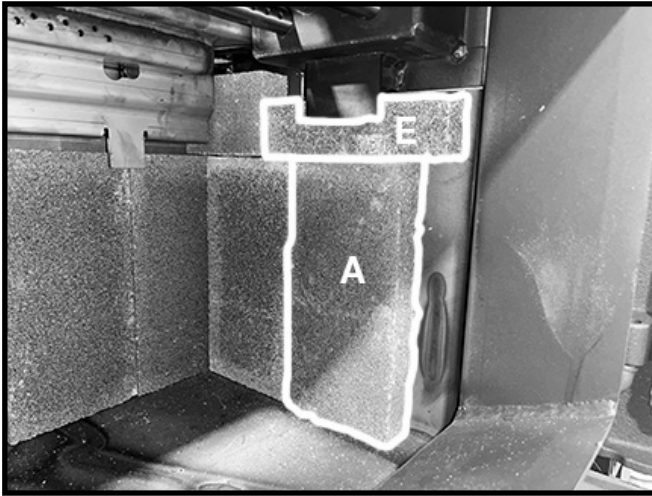

Figure 16. Second side wall bricks in place.
5. Next, place an "E" firebrick up under the side brick retainer tab and stand another "A" brick beside the first one under the "E" firebrick Figure 16.